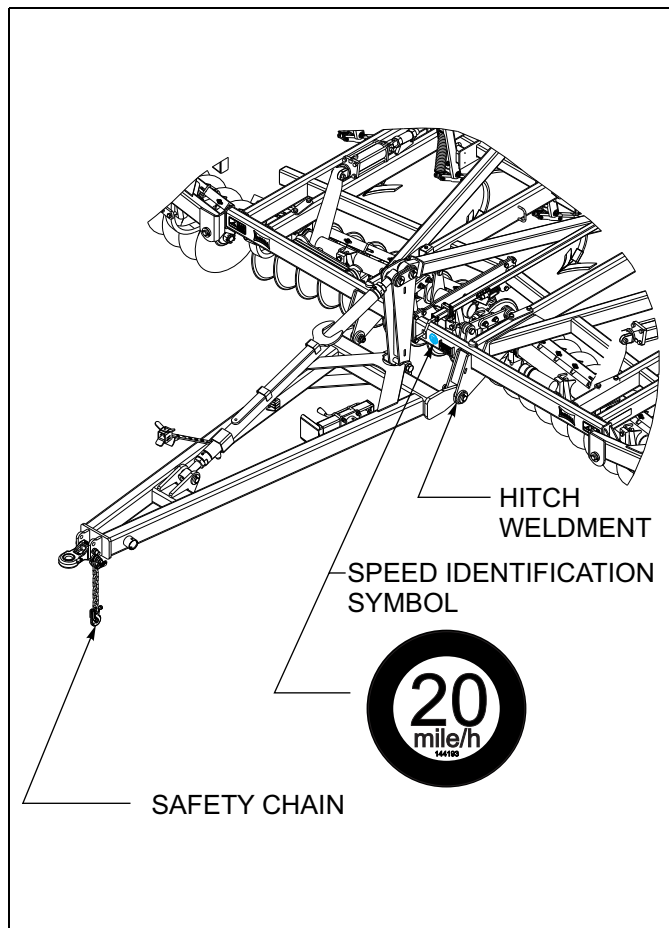

Figure 4-7: Hitch, Speed Identification Symbol, and Safety Chain
2. The Finisholl should be transported only by tractor required for field operation. The implement weight should not exceed more than 1.5 times the tractor weight. Unless noted on the implement, maximum transport speed is 20 mph for the implement and is designated on the speed identification symbol (SIS) located on the front of the implement (See Figure 4-7.)